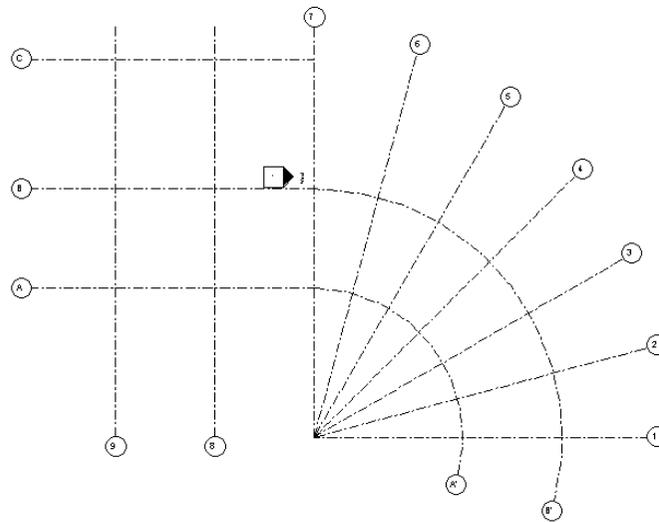

Figure 3-65 The grid lines with new names
4. To rename all the grids in the project, select them individually and repeat steps 2 and 3. Refer to Figure 3-65 for new names of the grids.